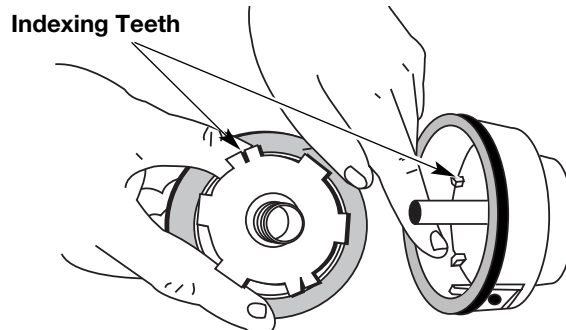

Fig. 18
5. Check the indexing teeth on the inner reel and outer spool for wear (Fig. 18). If necessary, remove burrs or replace the reel and spool.